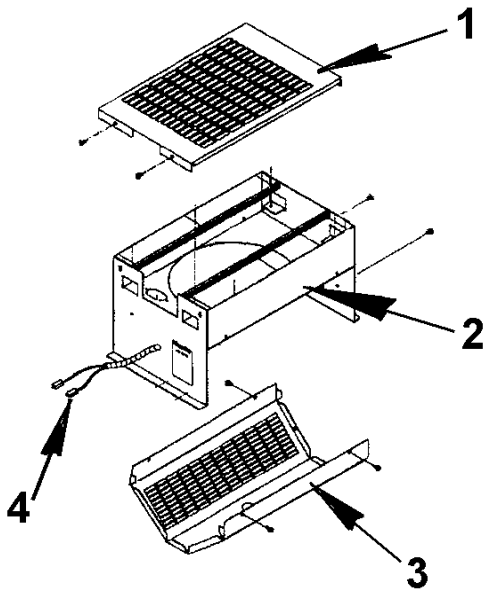

Figure 200 Under Seat Heater
- c. Remove the heater cover (Fig. 200, Item 1) panel mounting screws.